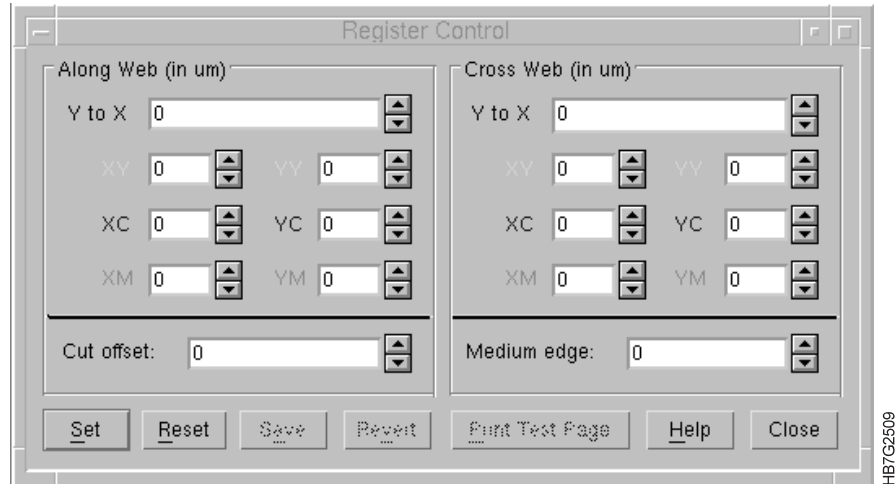

Figure 159. Register Control Window
- 1 Open the **Register Control** window, as shown in Figure 159 on page 237.